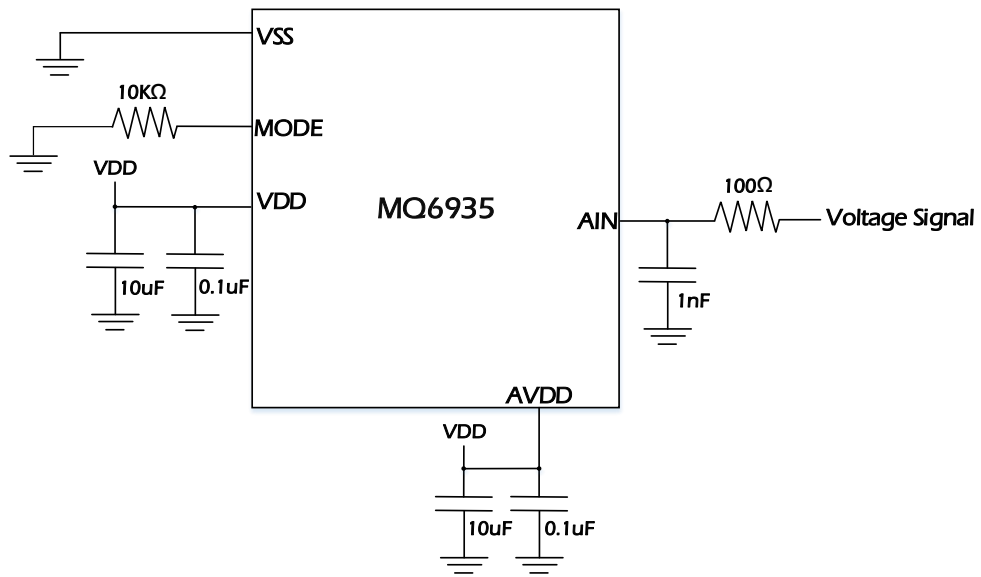

Figure 2.2 Recommended external circuit when using MQ6935 (different power sources for VDD & AVDD)
- 6. VDD pin and AVDD pin need to be equal potential. If the power sources of VDD and AVDD are different, 10uF and 0.1uF capacitor need to be connected respectively, **0.1uF capacitor should be close to IC as much as possible.** (Figure 2.2)